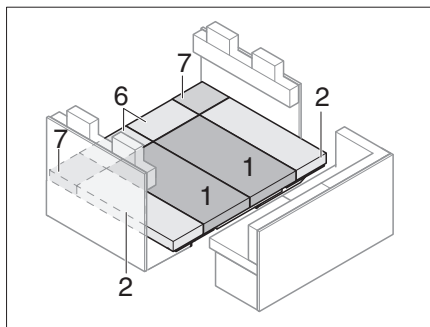
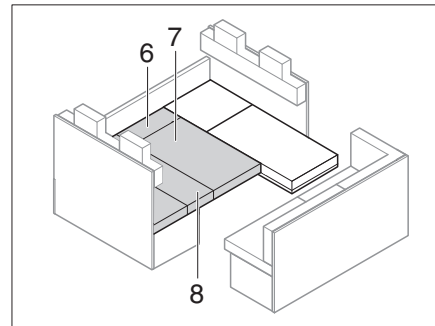

Fig. 203 After conversion
Fig. 207 After conversion
- Lay on the seat, backrest and additional cushions as shown in Fig. 203.
- Position the seat, back and additional upholstery as shown in Fig. 203 to Fig. 207.